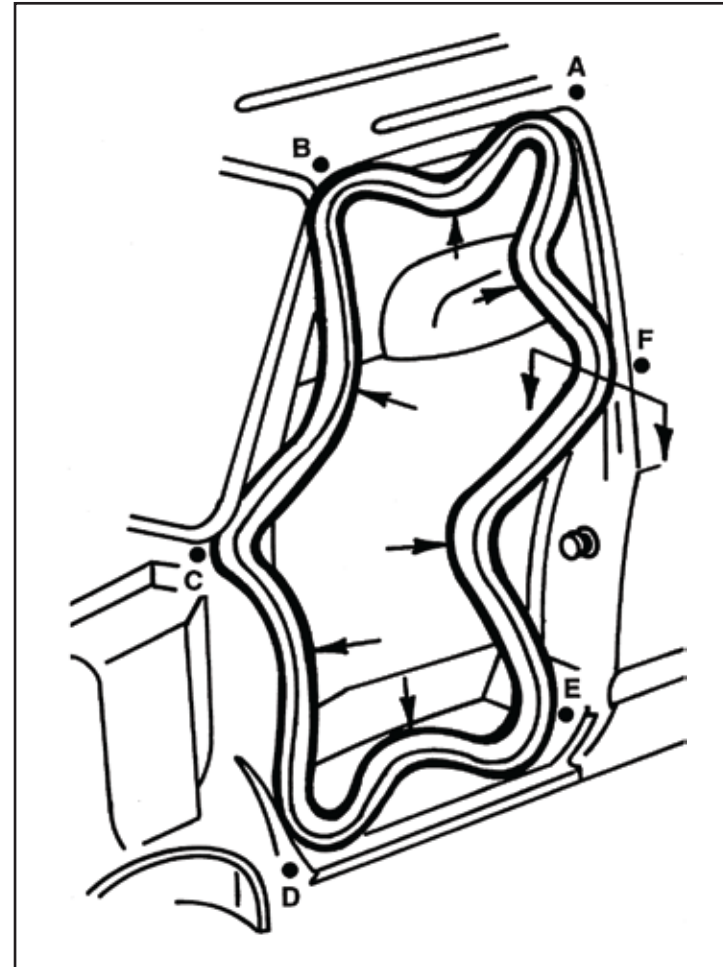

Figure 6
1. Install weatherstrip at corner A (Figure 6). Seat weatherstrip onto body flange on each side of the corner.